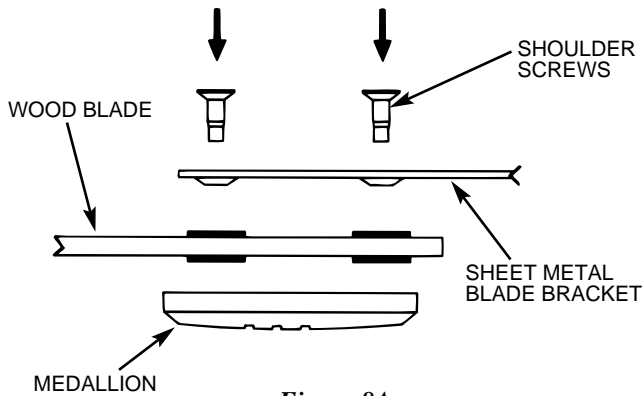

Figure 8A
B. Next assemble the wood blades to the sheet metal blade brackets and blade medallions using (3) shoulder screws for each blade. See Figure 8A. Make sure all screws are tight.